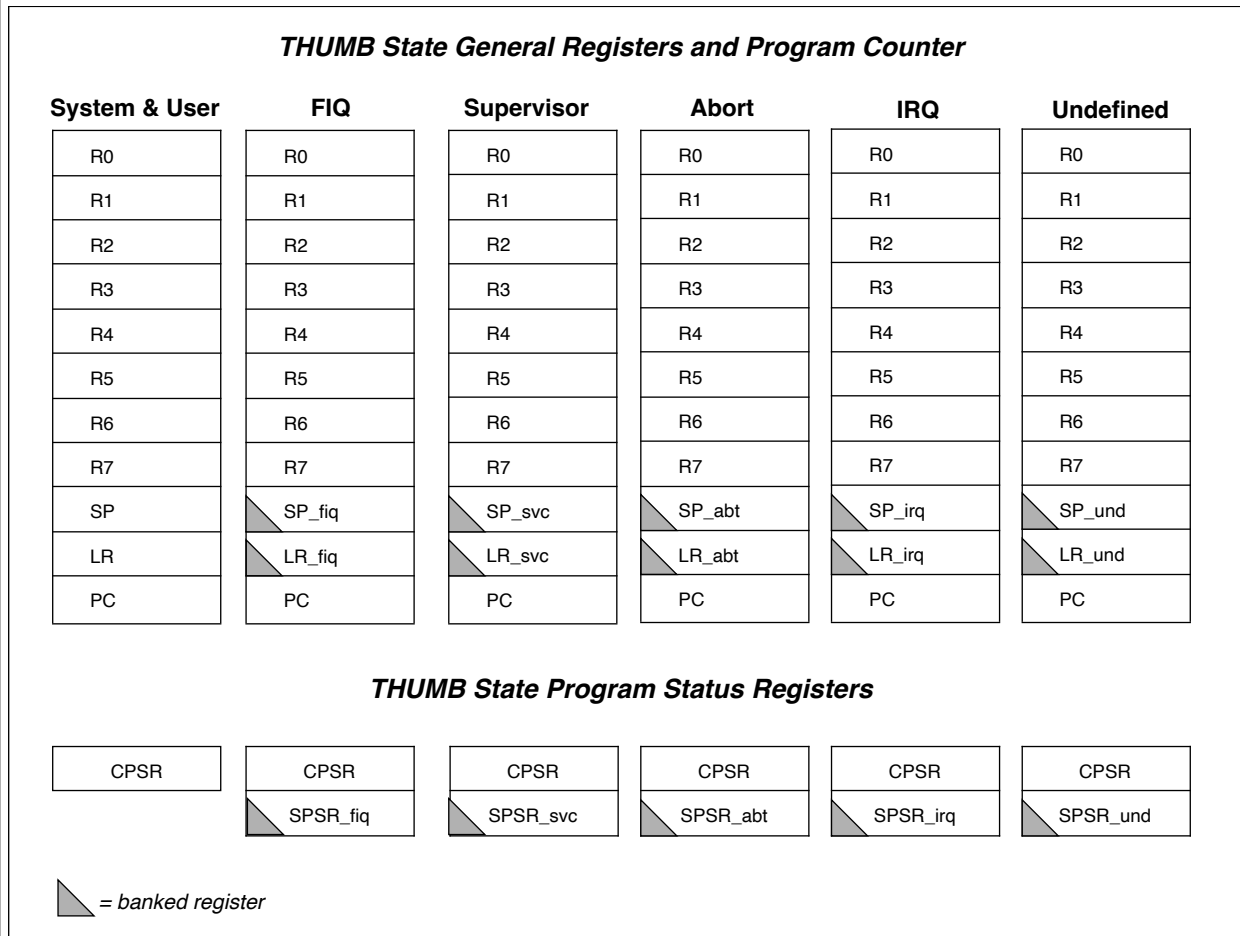

Figure 3-4: Register organization in THUMB state
The THUMB state register set is a subset of the ARM state set. The programmer has direct access to eight general registers, R0-R7, as well as the Program Counter (PC), a stack pointer register (SP), a link register (LR), and the CPSR. There are banked Stack Pointers, Link Registers and Saved Process Status Registers (SPSRs) for each privileged mode. This is shown in  Figure 3-4: Register organization in THUMB state.